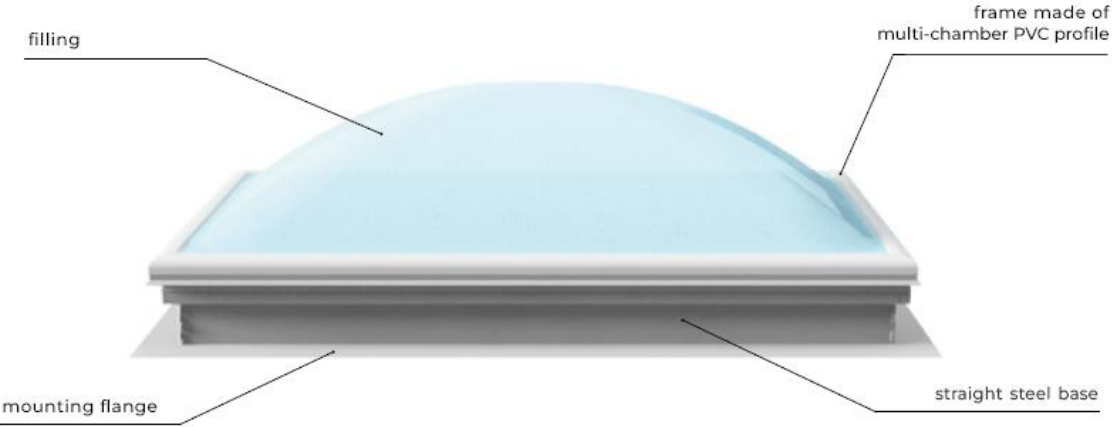

Fig. 3. Fixed skylight mcr ULTRA THERM type with straight steel base and PVC leaf.
- b) with a metal base* and a PVC leaf → see Fig. 3,